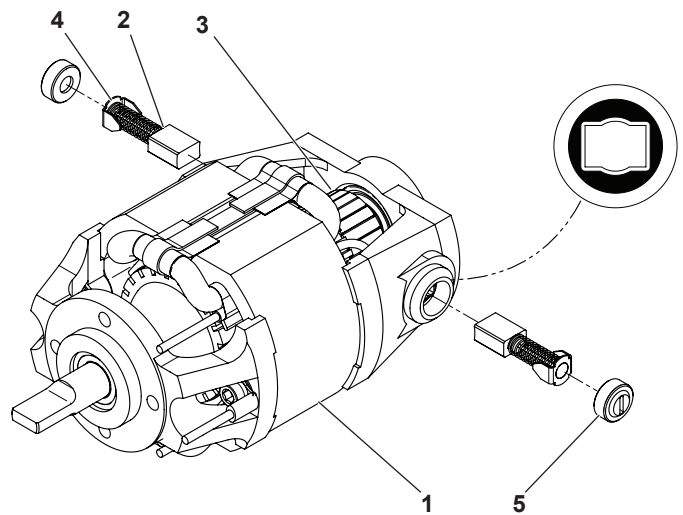

Figure 4-3: Weld Motor - Brush Replacement
2. The brushes (**Figure 4-3: 2**) are located at the end of the Weld Motor and are held in place against the rotor (**Figure 4-3: 3**) by a small compression spring attached to the brush. Brushes are secured in the motor by a screw cap (**Figure 4-3: 5**).